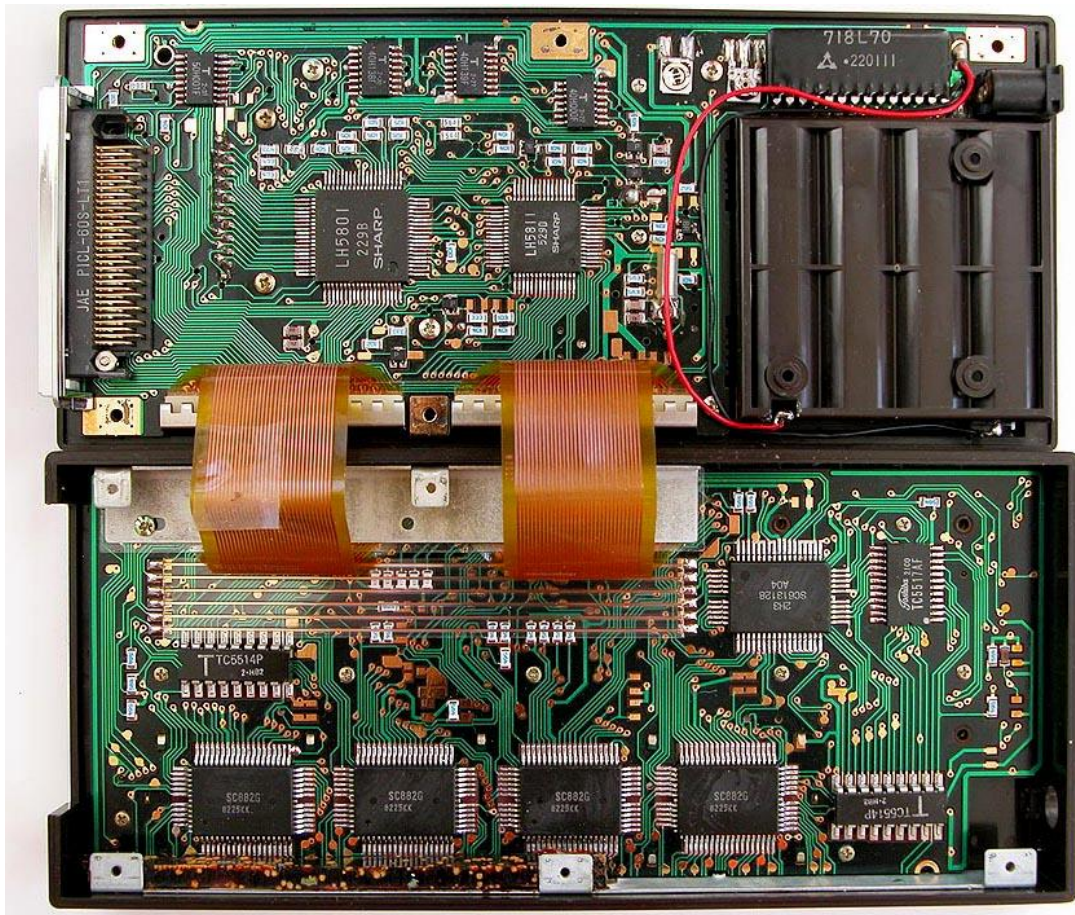
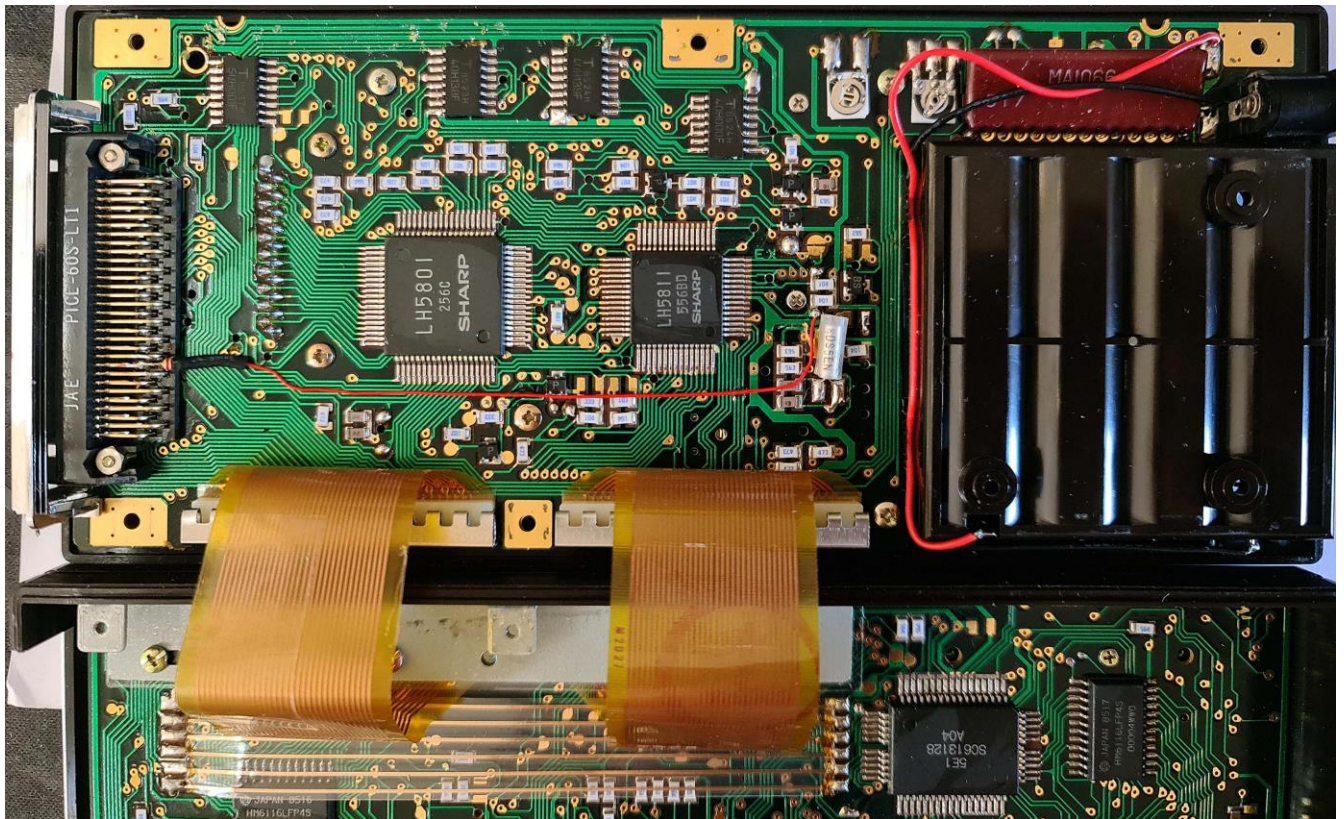
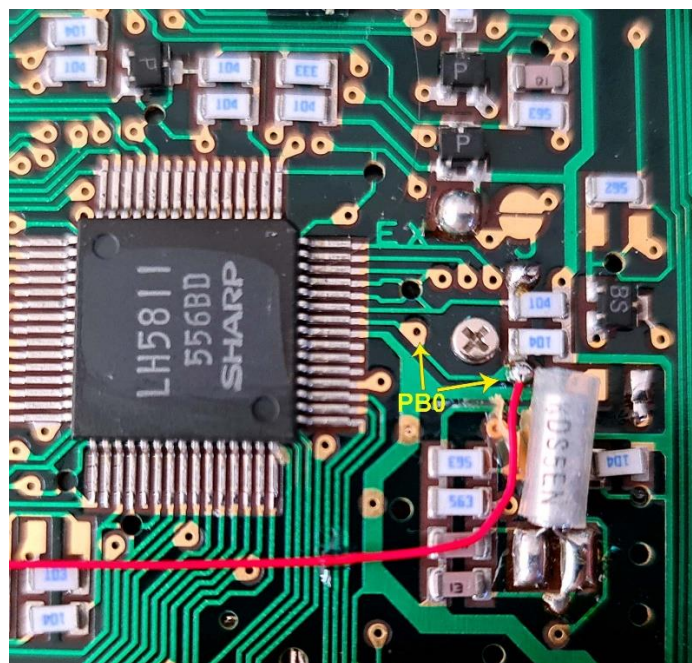

Fig. 1 Interior of a PC-1500A
Fig. 2 Connection to PB0 implemented (thin red wire)
Fig. 3 Close-up of the PB0 connection point
2. Carefully separate the two halves of the case. You will see the board shown in Fig. 1. With a thin wire, connect the contact of the 60-pin side connector (pin 9, see the photo) to the pad on the PCB next to the LH5811 chip (or LH5810) as shown on Fig. 2 and Fig. 3. For protection it is best to add a 1 k Ω series resistor. Pin 9 of the side connector is now connected to the **PB0** pin of the LH5811. *Nota bene: I have heard that some PC-1500(A) units already have this connection from the factory (according to the Technical Reference Manual it depends on the production date). I own about 10 PC-1500 and PC-1500A units, but none of them has it.*